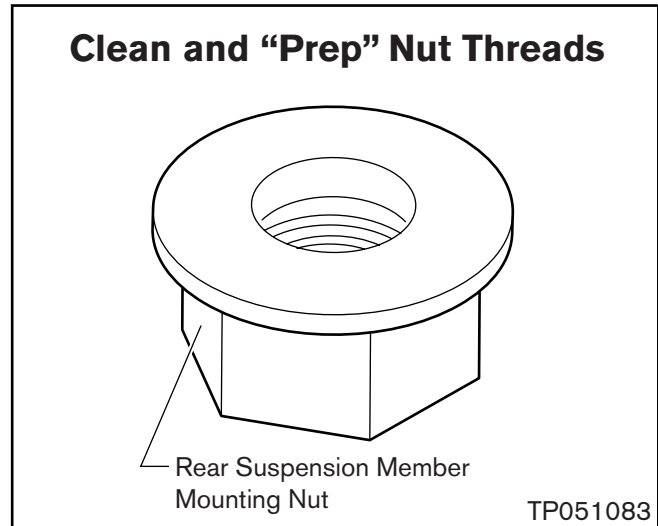

Figure D2
3. Clean and “prep” the four nuts that screw onto the suspension member mounting studs as follows (see Figure D2).